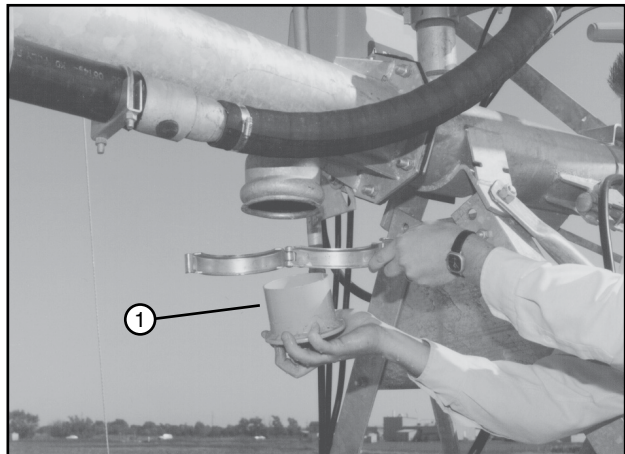

Figure 94-2 1. Sand Trap
4. Remove and clean the sand trap at the last regular drive unit. See figure 94-2.